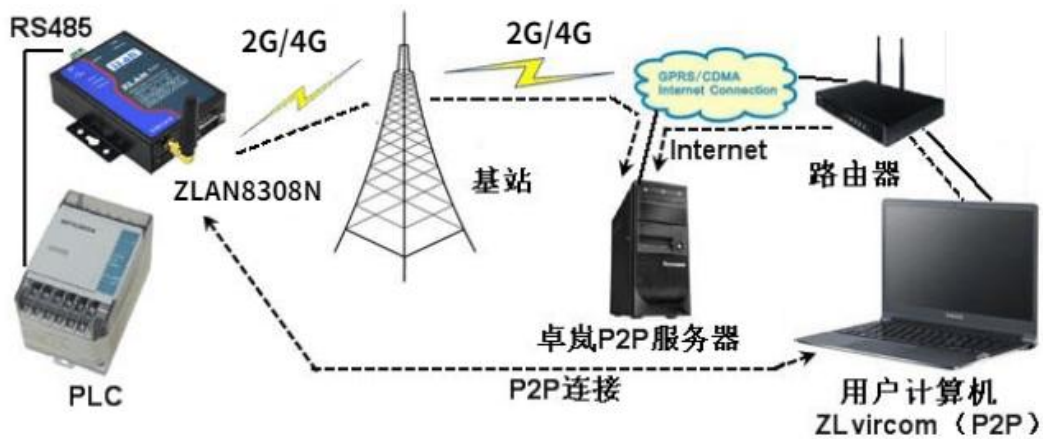

Figure 3 P2P 2G/4GDTU mode
ZLAN8308 This model integrates ZLAN's P2P technology, which can solve the inconvenience of ordinary DTU requiring "port mapping" and "dynamic domain name". Figure 3 P2P 3G/4G DTU mode is shown in Figure 3. Compared with Figure 2, (1) a ZLAN P2P server is added here, and (2) the user's computer replaces the monitoring server. Users do not have to use the server for monitoring, but can use their own laptops to monitor anytime and anywhere. At the beginning of communication, the P2P software on the user's computer - ZLVircom first communicates with the ZLAN P2P server; at the same time, 8303 can also communicate with the ZLAN P2P server. After the two parties have negotiated, direct communication between 8303 and ZLVircom can be established (without forwarding through the P2P server). The software on the user's computer can communicate through the virtual serial port or TCP simulation port provided by ZLVircom. When using it, the user only needs to enter the serial number of the 8303 to be monitored in the ZLVircom software to establish a P2P connection. The P2P method frees users from the trouble of "port mapping" and "dynamic domain name", and does not require them to rent a server with a public IP, thus truly achieving